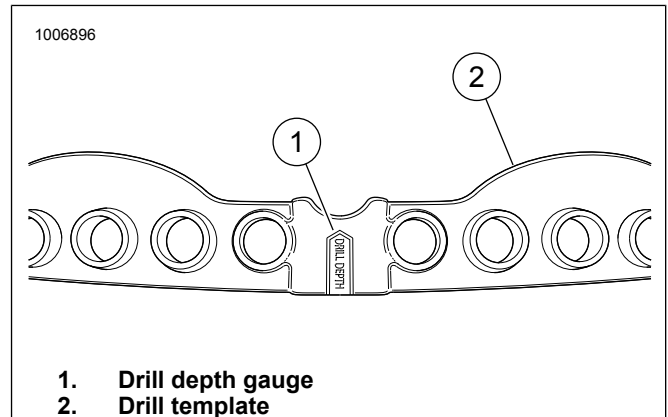

Figure 1.
5. Figure 1 Locate drill depth gauge (1) on drill template (2).